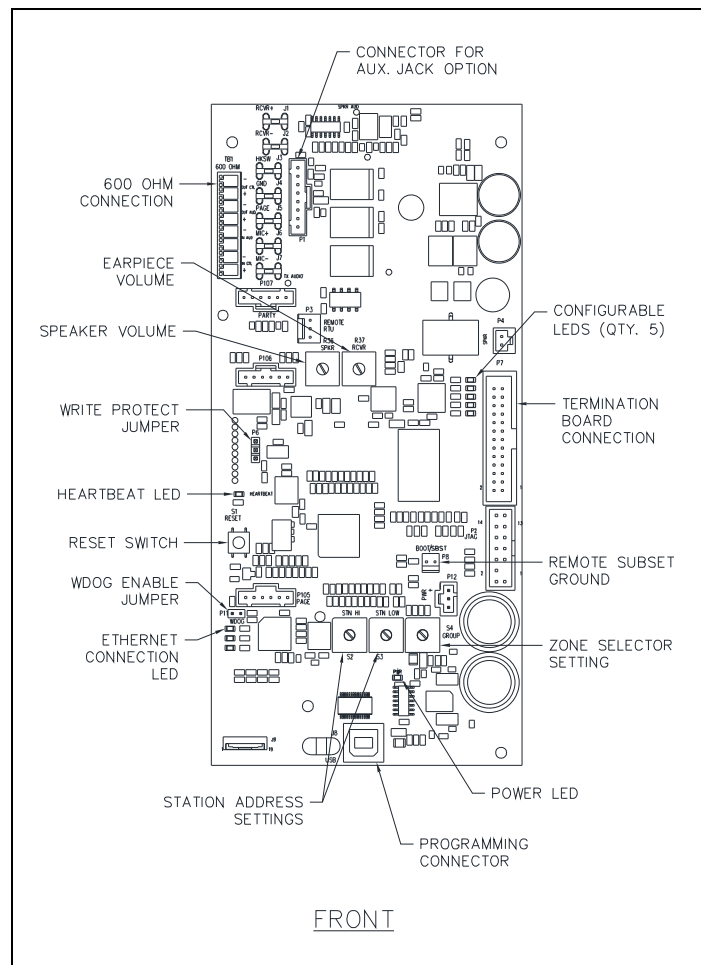

Figure 10. Main PCBA—PoE Remote Subset SP2 Station
Refer to Figure 10 for the switch, jumper, and LED locations on the main PCBA.
1. Turn the speaker volume potentiometer, R36, fully counterclockwise (see Figure 10).
Use the receiver volume potentiometer, R37 (see Figure 10), to adjust the volume for the handset:
One *group-number* and two *station-number* hex-selector switches configure SP2 stations for *mutual provisioning* (see Figure 10). Each hex switch has a small arrow that indicates the current setting.
The POWER LED illuminates when power is applied to the station, indicating the main board power supply is operational (see Figure 10).
The HEARTBEAT LED flashes when network communication is established, indicating the microprocessor is operational (see Figure 10).
Three Ethernet connection LEDs are located on the main PCBA; link (LNK), link speed (SPD), and activity (ACT). The LNK LED is blue, the SPD LED is green, and the ACT LED is yellow. The LNK and SPD LEDs indicate an active 100 Mbps Ethernet link when **off**. The activity LED, ACT, blinks yellow to indicate Ethernet data activity (see Figure 10).
Configure the five LEDs (see Figure 10) through firmware. Information for configuring these LED indicators is in the SP2 Configuration Guide, Pub. 42004-784 (see the Reference Documentation section).